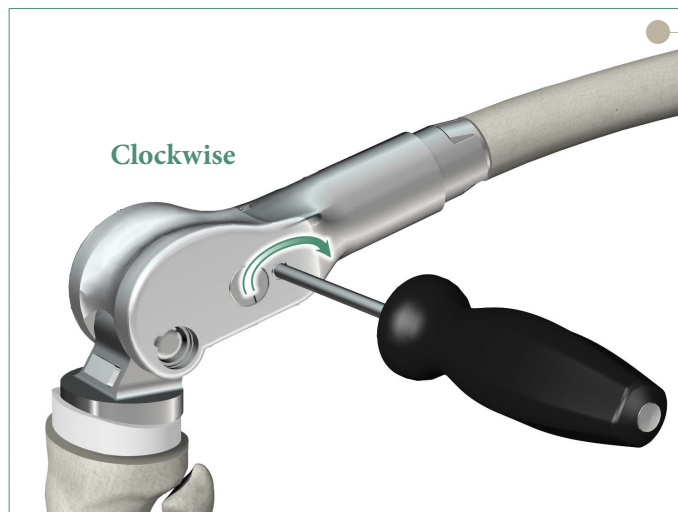

Figure 38
- Once the prosthesis has been expanded to the desired length, lock the prosthesis again by re-inserting the smaller hex screwdriver into the same hole used to unlock the prosthesis and turn clock-wise (**Figure 38**). An audible click from the locking screwdriver handle will indicate that the device is locked. Do not bend the screwdriver. Ensure that the smaller hex screwdriver is fully seated in the hole prior to locking the device.